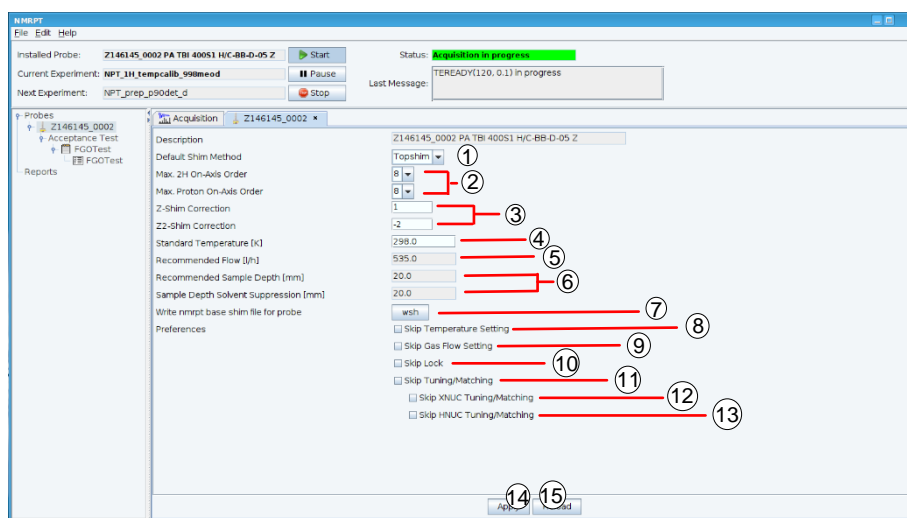

Figure 5-63: Probe Setup tab – overview
The Probe Setup tab (Figure 5-63) offers global settings for a specific probe. These settings are applied as defaults for all future experiments of Inspection Lots for this probe.
- (1) **Default Shim Method**
Select the Shim Method from the list (Figure 5-63 (1)) to be set as default for the probe. If None is selected as a default, *NMRPT Shim Command Number* 999 (skip shimming) is set as a default for experiments.
- (2) **Maximum Shim Order (not HRMAS, MAS, CMP probes)**
Select a **Max. 2H On-Axis Order** and a **Max. Proton On-Axis Order** from the corresponding lists (Figure 5-63 (2)). These maximum orders are applied according to the TopShim `ordmax` parameter.
- (3) **Z-Shim Correction (not MAS, SOL probes)**
Enter a value for **Z- or Z2-Shim Correction** (Figure 5-63 (3)) to be applied for this probe. The correction is applied at the end of the shimming process during water suppression experiments. If *NMRPT Shim Command* 999 (skip shimming) is selected for an experiment, Z-Shim Correction is not applied.
- (4) **Standard Temperature [K]**
Enter a **Standard Temperature** (Figure 5-63 (4)) in Kelvin to be applied if Temperature und Flow settings (Figure 5-63 (8)) are active.
- (5) **Recommended Flow from PICS [l/h]**
This information shows the PICS value for Recommended Flow (Figure 5-63 (5)) in litre per hour to be applied if Temperature und Flow settings (Figure 5-63 (8)) are selected.
- (6) **Sample Depth [mm] (Figure 5-63 (6)) (HR probes only)**
- (7) **Write nmrpt base shim file for probe**
Click **wsh** (Figure 5-63 (7)) to write a base shim file.
- (8) **Skip Temperature Setting**
Select this option (Figure 5-63 (8)) to skip setting the Standard Temperature of the probe to temperature control unit.
- (9) **Skip Gas Flow Setting**
Select this option (Figure 5-63 (9)) to skip setting the gas flow for temperature control by *NMRPT*. Experiments that require a defined flow will become irregular. This option is disabled if temperature control unit is set to external mode.
- (10) **Skip Lock (probes with 2H only)**
Select **Skip Lock** option (Figure 5-63 (10)) to measure the experiment unlocked or to lock manually. This option is missing if no lock is available.
- (11) **Skip Tuning/Matching**
Select this option (Figure 5-63 (11)) to skip tuning and matching of all nuclei used in an experiment. If selected, **Skip XNUC Tuning/Matching** (Figure 5-63 (12)) and **Skip HNUC Tuning/Matching** (Figure 5-63 (13)) are disabled.
- (12) **Skip XNUC Tuning/Matching**
Select this option (Figure 5-63 (12)) to skip tuning and matching of all X nuclei used in an experiment. This option is disabled if **Skip Tuning/Matching** (Figure 5-63 (11)) is selected.
- (13) **Skip HNUC Tuning/Matching**
Select this option (Figure 5-63 (13)) to skip tuning and matching of the H nucleus if used in an experiment. This option is disabled if **Skip Tuning/Matching** (Figure 5-63 (11)) is selected.
- (14) **Apply**
Click **Apply** (Figure 5-63 (14)) to apply all settings as defaults for future experiments set up for this probe.
- (15) **Reload**
Click **Reload** (Figure 5-63 (15)) to revert all changes not applied yet.